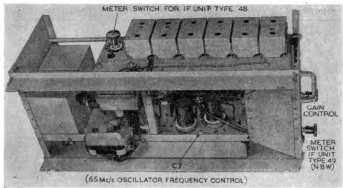

Fig. 34. IF unit Type 34A: interior
- (3) Withdraw IF unit Type 34A and identify the oscillator control C7 which is between V1 and V2 (*fig. 34*). Tune C7 for maximum signal amplitude.
- (4) Switch off the N.B.W. key and note the effect of this on the signal. If the signal decreases in amplitude, adjust the GAIN control on the front panel of IF unit Type 34A. Repeat this operation until there is no difference in signal amplitude as the N.B.W. key is switched in and out.
- (1) Turn on the N.B.W. key and set N.B.W. TUNE to its midway position : both controls are on the control desk.
- (2) Withdraw IF unit Type 34A and identify the oscillator control C7 which is between valves V1 and V2 as seen from the left-hand underside of the unit (*fig. 34*). Tune the oscillator for maximum signal amplitude, using an oscilloscope.
- (3) Switch off the N.B.W. key and observe the effect on a permanent echo. If the echo decreases in amplitude, adjust the GAIN control on the front panel of IF unit Type 34A and re-check.